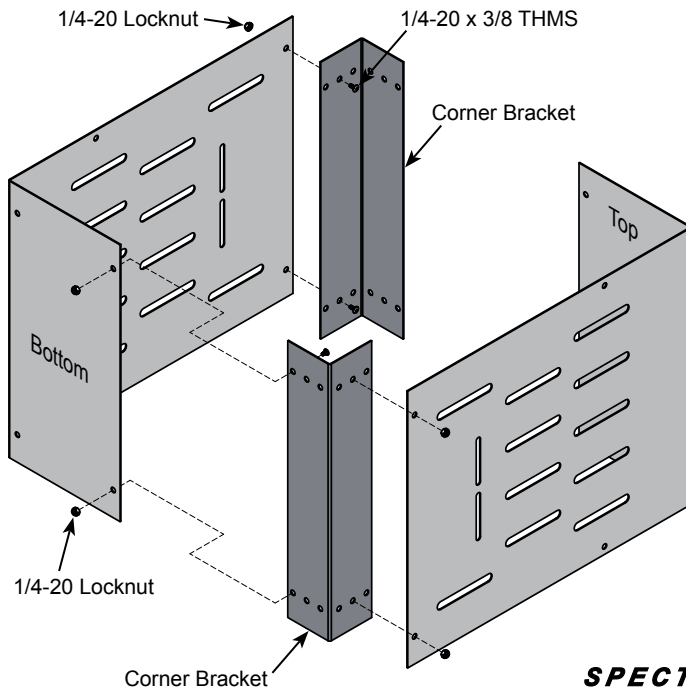
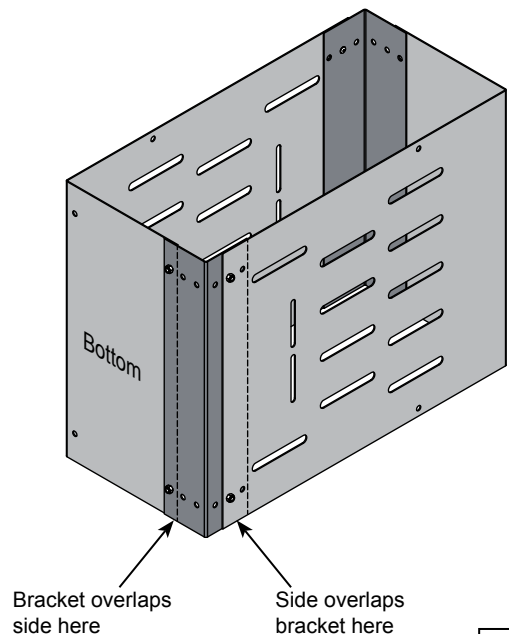

Figure 1A
Figure 1B
- Adjust the CPU sling to the height and width of your CPU using the three adjustment holes and attach the corner brackets using the 1/4-20 x 3/8" truss head machine screws and 1/4-20 locknuts as shown in **Figure 1A**. The screws install from the inside with the locknuts on the outside. Note the positions of the corner brackets at the top and bottom of the sling. **Figure 1B**.